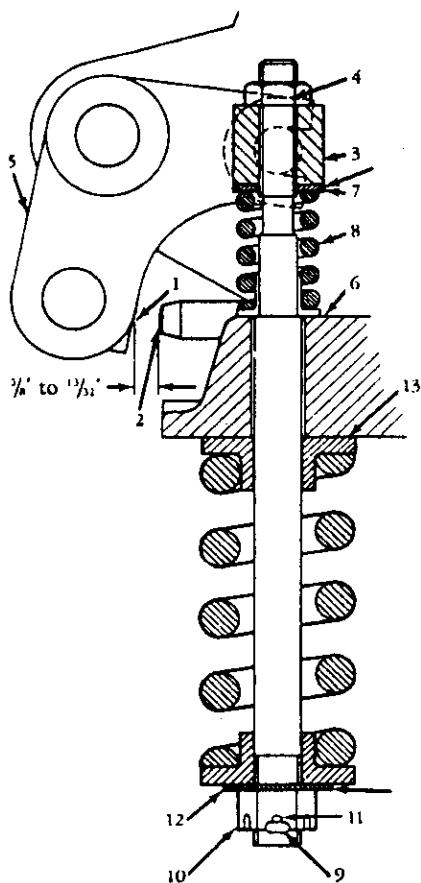

Fig. 147—After assembly, draft control spring and spindle must be adjusted as shown.
With unit assembled as outlined, place draft control lever in its deepest position and measure distance between end of draft link plunger (38) and operating pad of bellcrank. This distance should be 3/8 to 13/32-inch as shown in Fig. 147. If measurement is not as stated, bring to correct dimension by adding flat washers as shown.